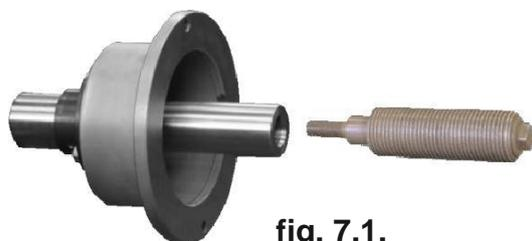

fig. 7.1.
7.4. Place the threaded stud on the shaft (fig. 7.1). All mating surfaces must be cleaned with a clean piece of cloth moistened with petrol or petroleum spirit prior to assembling. Any amount of dirt on the mating surfaces of the spindle or the threaded stud can lead to unacceptably low accuracy of the measurements.